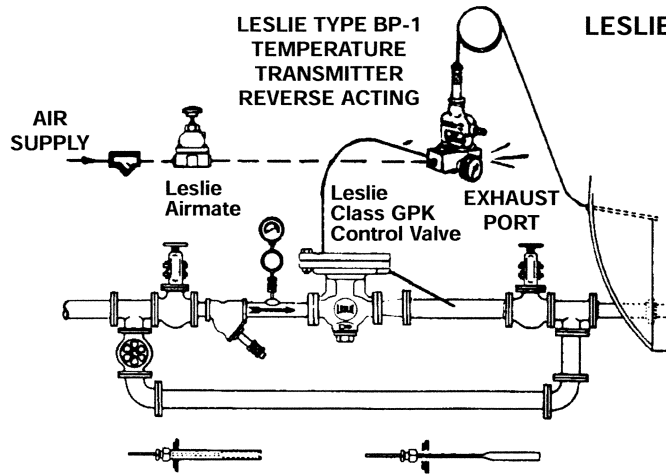

Figure 3 - Type "BP" Thermo-Pilot with Type GPK Control Valve - Delivered heating or cooling agent pressure limited by restricting air loading pressure valve
1. Install the Thermo-Pilot (without thermostatic element) in an accessible location. See Typical Installation Figures 3 and 4. The capillary must reach from the sensing point to the Pilot.